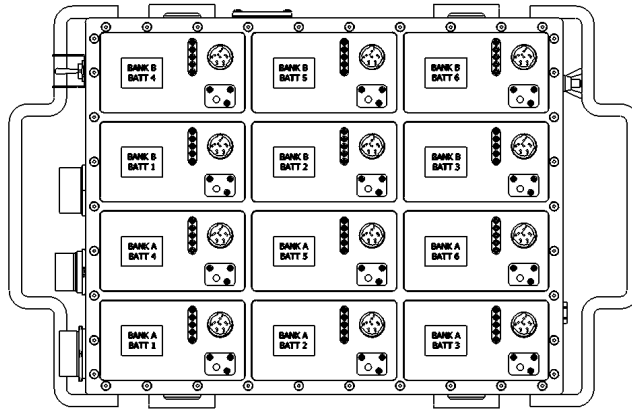

Figure 3-2 Battery Box shown with Connectors Facing Up
1. Place the Battery Box on a flat surface capable of supporting at least 100 lbs with the battery connectors facing up. There will be identifying engravings identifying battery position by bank (A or B) and battery number within each bank. See Figure 3-2 for guidance.